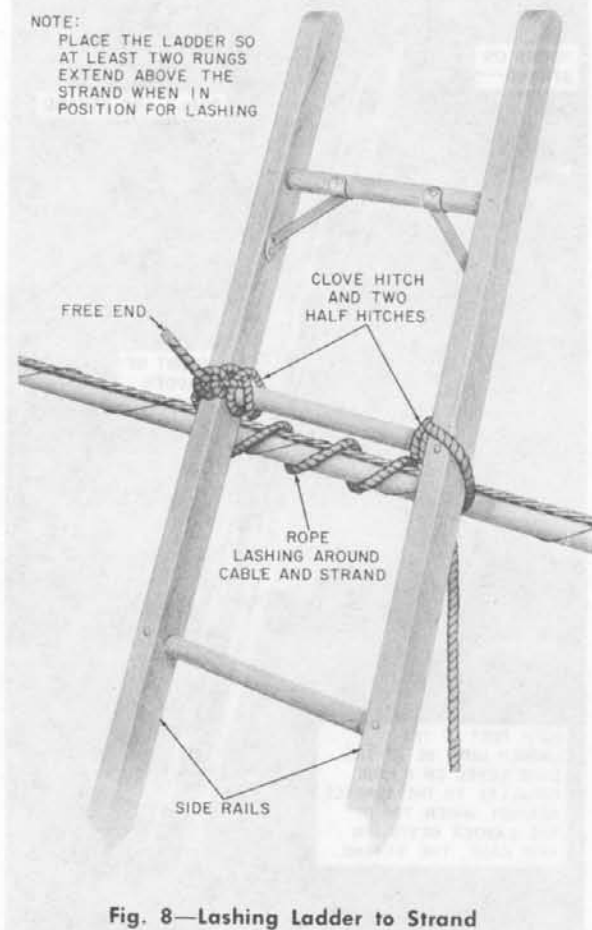

Fig. 8—Lashing Ladder to Strand
6.05 When a ladder is placed against the strand and heavy work such as pulling or lifting is to be done, lash the ladder to the strand with a short length of rope, as shown in Fig. 8. Where the cable is supported in rings, pass the lashing rope around the strand only; where the cable is lashed, pass the lashing rope around the strand and cable. **Do not move the base of the ladder after the upper end has been secured to the strand.**